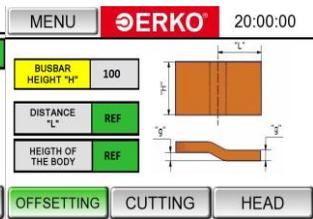

Fig. 13
- Fig. 13 shows the menu for offsetting